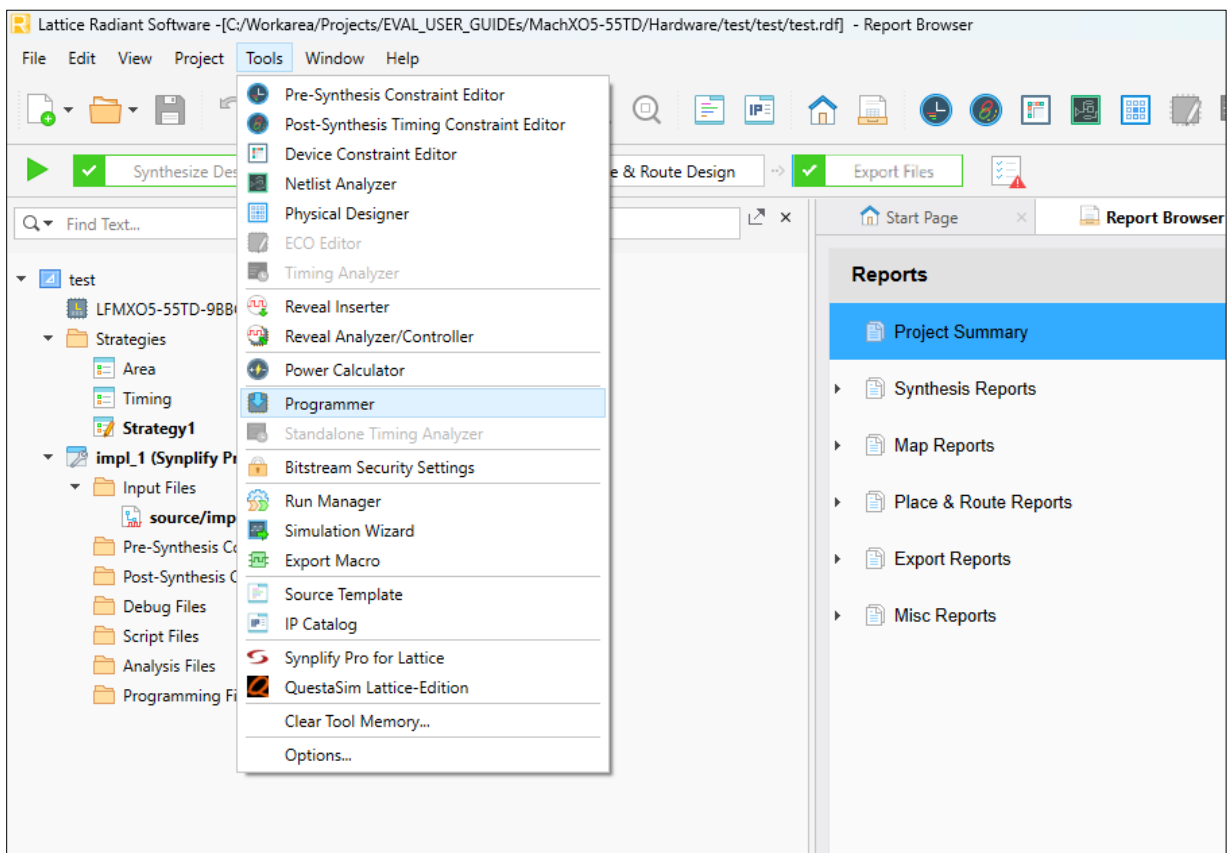

Figure 11.1. Radiant Software – Radiant Programmer
2. In the Lattice Radiant Software, click **Tools > Programmer**, as shown in Figure 11.1.